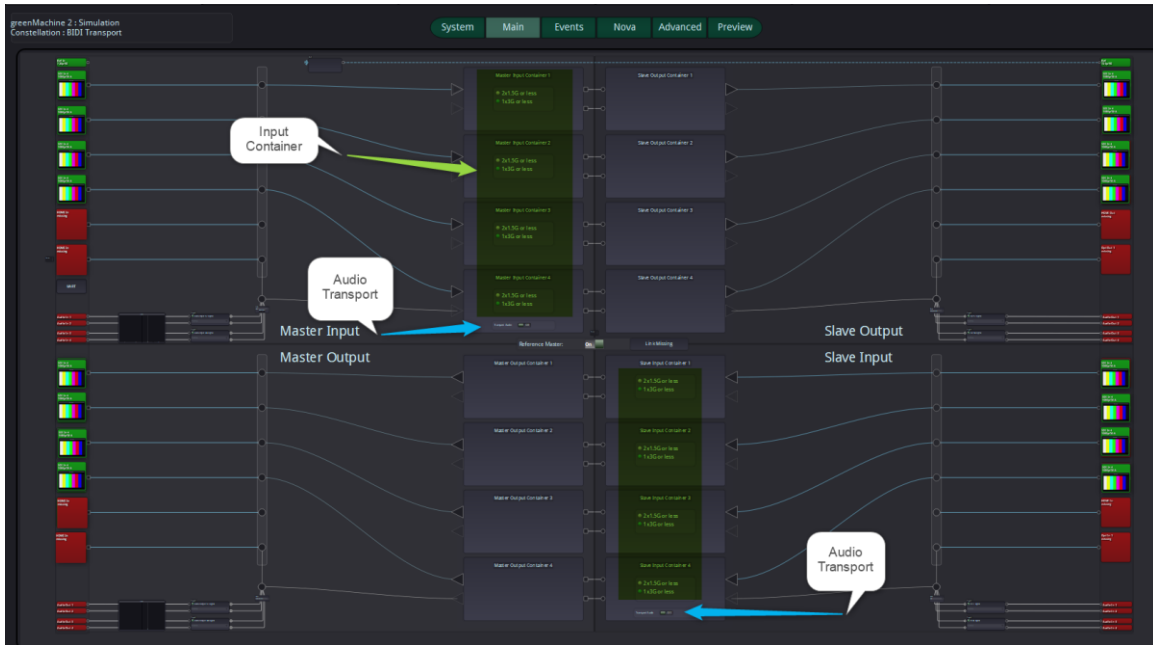

Figure 2
The signal transport configuration of both Master and Slave in BIDI Transport are done through the Master machine as shown in Figure 2. above.
***Note:** The Input Containers 1-4 are either set to 2x 1.5G or 1x 3G depending on the Input signal. A container set to 2x.1.5G will not process a 3G signal properly. For Audio Transport, an additional Parameter need to be turned on at both slave and master as mentioned in "Figure 2". When Audio Transport is turned ON, Container 4 can only be set to 2x 1.5G and used only for for up to 1.5G transport.